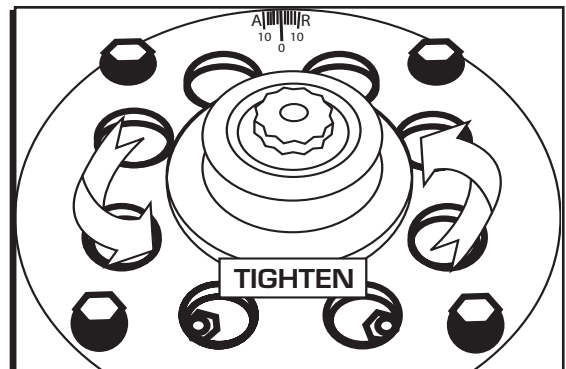

Figure 2 Installing the Timing Belt Pulley.
2. Install the camshaft pulley with the supplied cam adapter, washer and 12-point bolt (Figure 2). Note that the threads are reversed. Coat the threads of the bolt with 30-weight motor oil or ARP moly lube. Torque it to 90 lb-ft with motor oil or 70 lb-ft with the ARP lube. Loop the belt over the timing belt pulley.